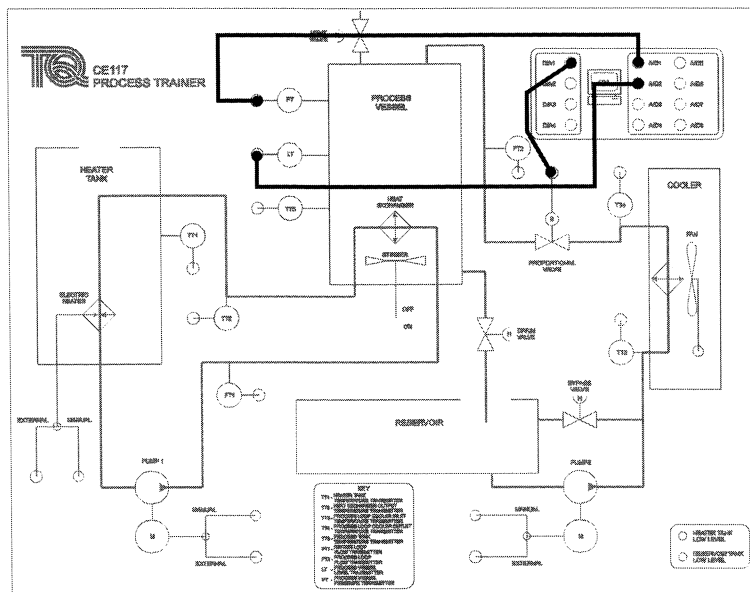

Figure 83 Connections for Experiment 10 Procedure 1
- 1) Start the CE2000 software and load file 'exp10-1.ict'. Connect the CE117 Mimic Panel as shown in Figure 83.